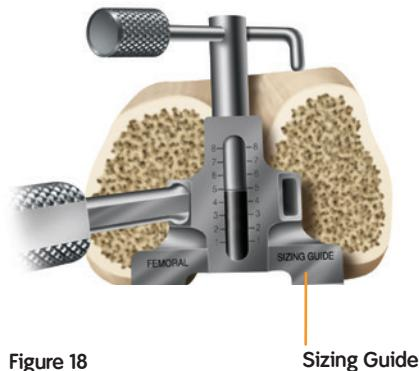

Figure 18
- 1 Attach a quick-connect handle to the femoral sizing guide. Place the femoral sizing guide on the distal femur, and place the stylus tip on the lateral side of the provisional anterior cut (Figure 18).